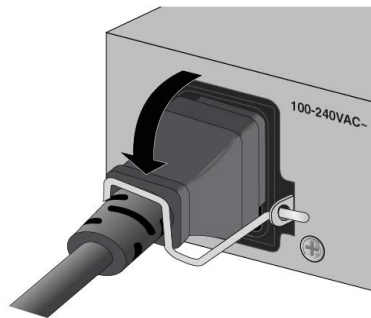

Figure 71. Lowering the Power Cord Retaining Clip
3. Lower the power cord retaining clip to secure the cord to the switch. Refer to Figure 71.